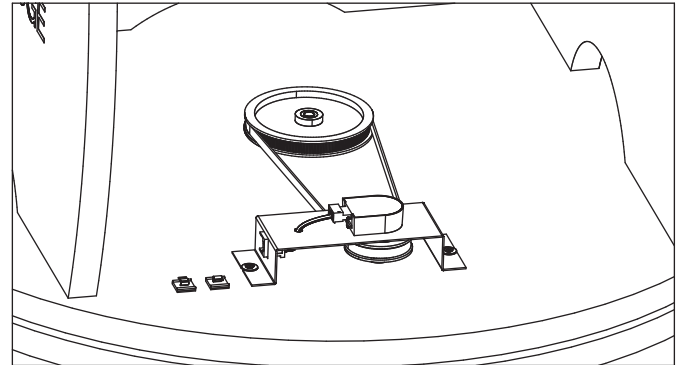
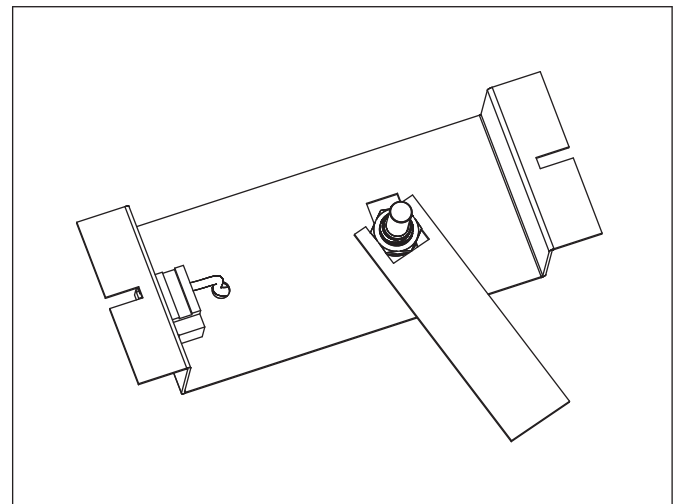

Fig. 1
Fig. 2
3) Install the timing belt around the smaller diameter pulley on the azimuth encoder shaft. Wrap the other end of the timing belt around the larger diameter azimuth pulley. Whilst ensuring the the belt stays engaged in the teeth of both pulleys, move the encoder bracket toward the open end of the rocker box and a few inches away from the inside left side of the rocker, as per Fig. 1, ensuring that the belt is snug. Mark a couple of points for the screws that will be used to fasten the bracket. Using the supplied screws and washers, mount the bracket to the inside base of the rocker. There is no need for the belt to be overly tight, simply snug. The encoder is mounted in a slot in the bracket via a hex nut and washer and can be adjusted to tension the belt correctly if need be as shown in Fig 2. The smaller pulley on the encoder can also be adjusted up or down the encoder shaft to match the height of the larger diameter pulley. The supplied 1/16" hex key can be used to loosen or fasten the set-screw found on the bore of the pulley if need be. The supplied 5000 step encoder on the bracket is geared by a ratio of 2:1 by the larger and smaller pulley, thus creating an effective resolution of 10,000 steps, which is the value you will enter into the SETUP ALT STEPS menu of your Argo Navis.